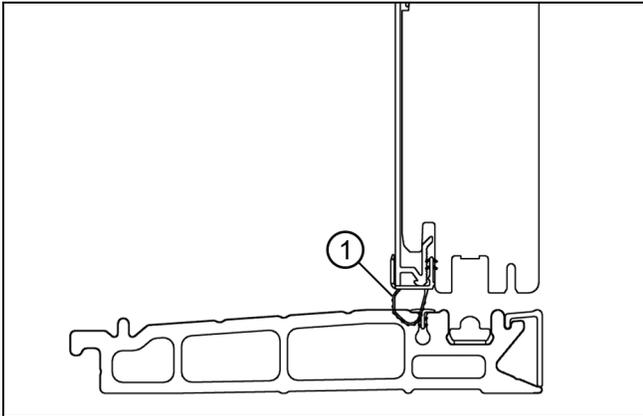

Figure 36
1. On active and inactive operator panels as well as interior stationary panels, insert the barbed side of the sill weatherstrip into the bottom of the panel. Rotate the other side to the clad side of the panel and then remove the adhesive backing. Press the weather strip onto the cladding. See Figure 36.